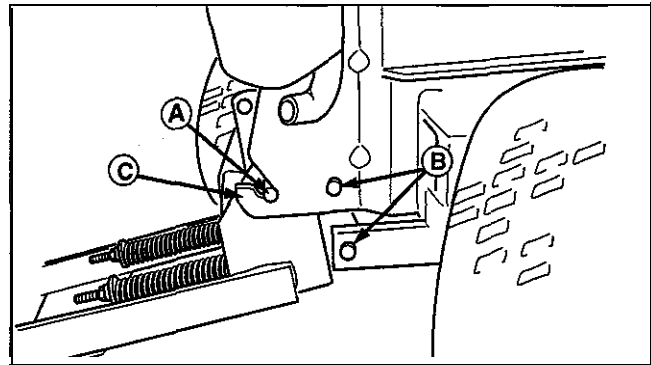

figure 5
4. See figure 5. Attach the sweeper to the tractor by resting the sweeper pins (A) on the front attachment hooks (C).
5. See figure 5. Install two clevis pins (B) on both sides and secure with safety clips.